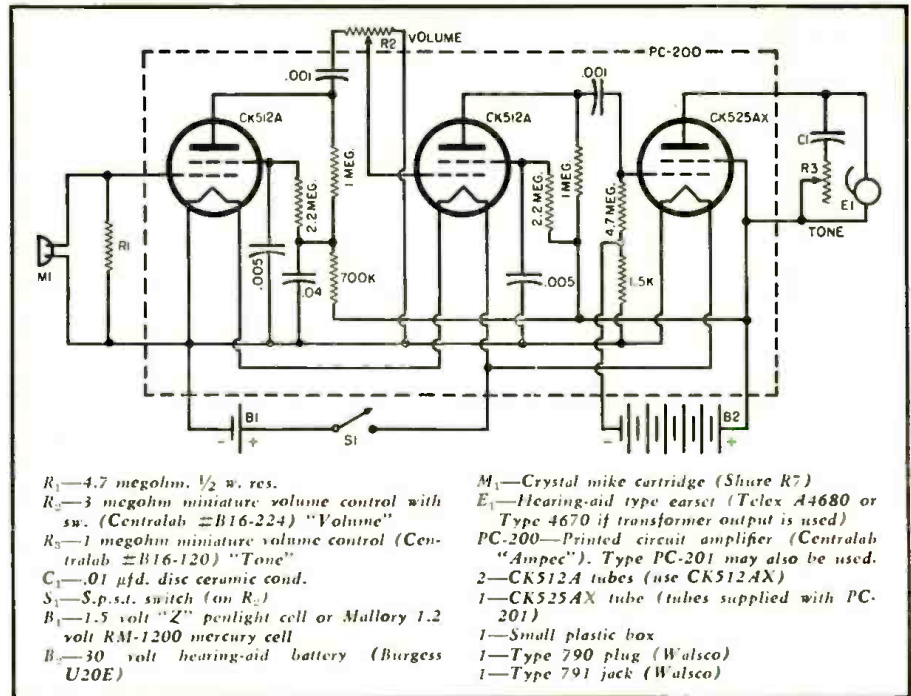

Fig. 3. Complete schematic. Circuit within dotted lines is a printed circuit amplifier.
Fig. 2. Alternate circuits for hearing aid shown in Fig. 3. (A) Choke output for crystal earset. (B) Resistor output for crystal earset. (C) Transformer output circuit, required for low impedance earset.
As can be seen by reference to the schematic diagram given in Fig. 3, the complete hearing aid consists of a microphone, a three-stage audio amplifier, and an earphone output, with power supplied by small batteries. The amplifier itself is a complete printed circuit unit, with the only connections required by the builder shown outside the dotted line rectangle, that is, the builder need only wire the leads to R_1 and the "mike," to the volume control, to the tone control and headset, and to the batteries and "on-off" switch.